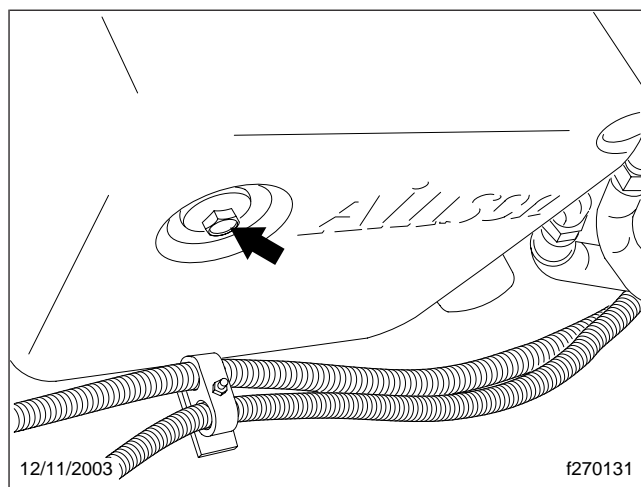

Fig. 1, Drain Plug
3. Remove the transmission drain plug from the bottom of the transmission and drain the automatic transmission fluid (ATF) into a suitable clean container. See Fig. 1. Install the drain plug and tighten to the following specifications based on the model: